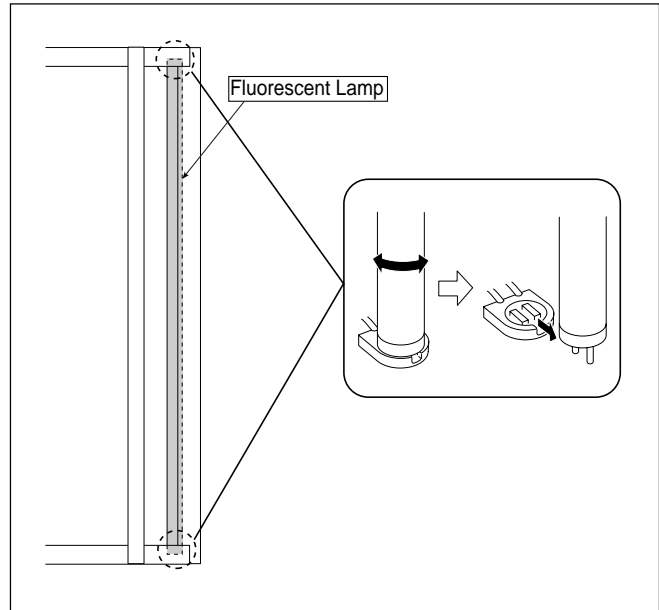

Fig. 20
- 11) Remove the Fluorescent Lamp. (See Fig. 20.)
1. Rotate the Fluorescent Lamp as shown in Fig. 20 and remove it from the lamp socket.